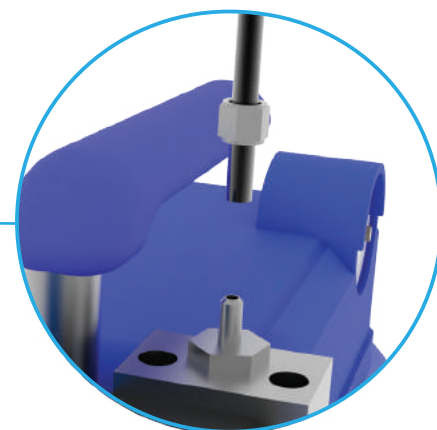

Fig.37
Remove the Vacuum line nut from the vacuum pump vacuum line then feed the pipe through the nut as indicated in Figure 37.
2. Connect the vacuum pipe to the vacuum pump as shown on page 11 in figure 37 ☐